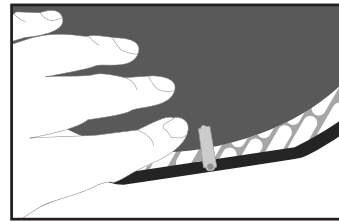

Fig. 17
3. If you are using the VOC filter, remove it by sliding out of the 4 clips. See Fig. 17
7. If you are using the VOC filter, put it back in and secure with 4 clips. See Fig. 17